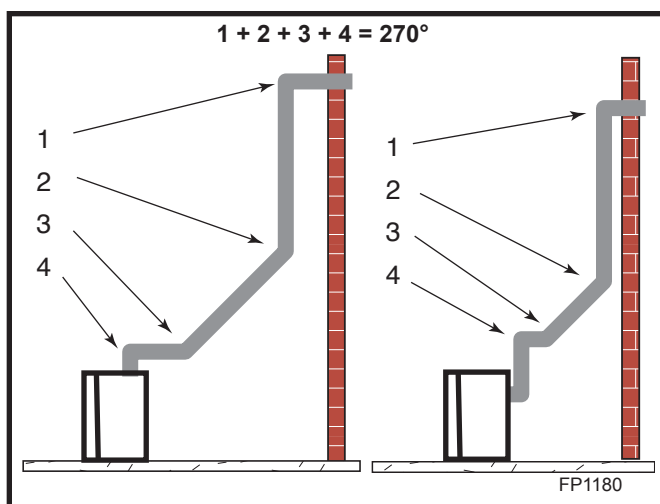

Fig. 30 Maximum elbow usage.
- The maximum number of 45° elbows permitted per side wall installation is two (2). These elbows can be installed in either the vertical or horizontal run.
- The maximum number of elbow degrees in a system is 270°. (Fig. 30)